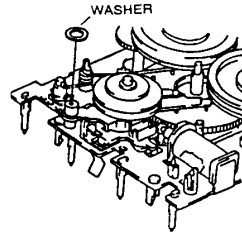

Fig. 8
- Install the washer (fig. 8).